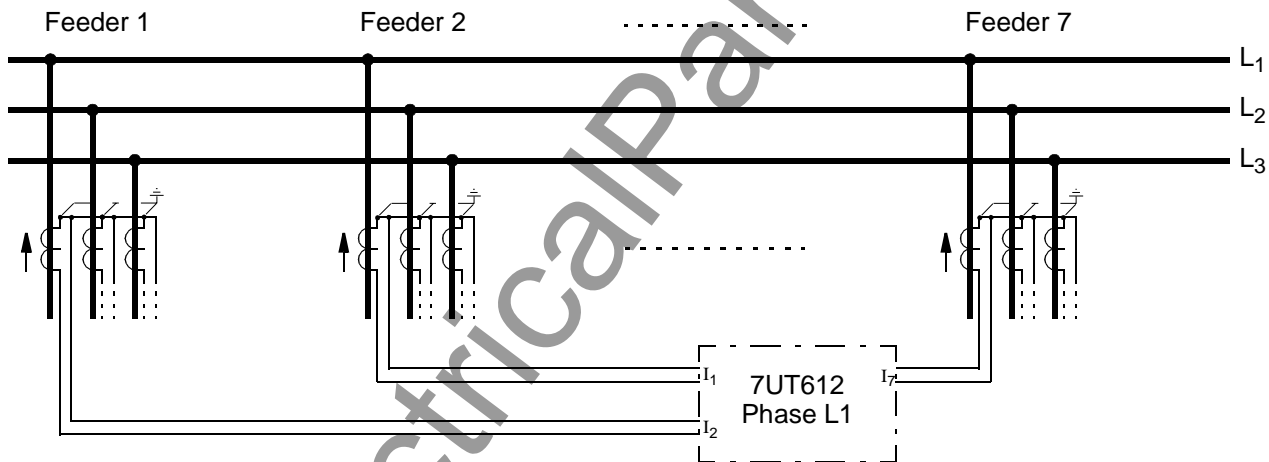

Figure 2-28 Single-phase busbar protection, illustrated for phase L1
1. One 7UT612 is used for each phase (Figure 2-28). Each phase of all busbar feeders is connected to one phase dedicated device.